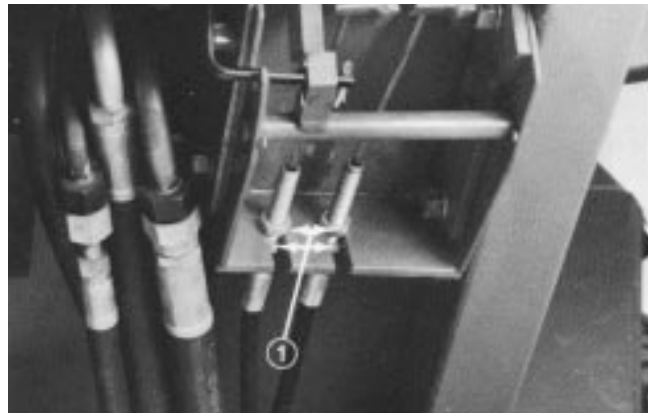

Figure 12
A. Loosen front nut on threaded end of brake cable (Fig. 12).
4. Loosen (do not remove) the five (5) wheel lug nuts.